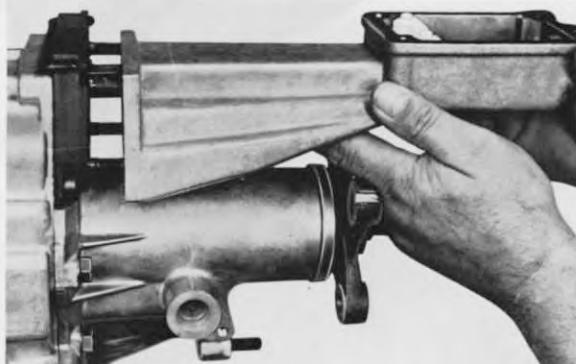

Fig. 65
- Push vibration damper (644) over the shift rods and fasten with the set screws (645) and spring washers (646).
- Place the pivot piece (624) on the 2 locating bolts in the gear change extension (619). Push shift arm over the shift rods (Fig. 65). Tighten nuts (648) with thrust washer (647).